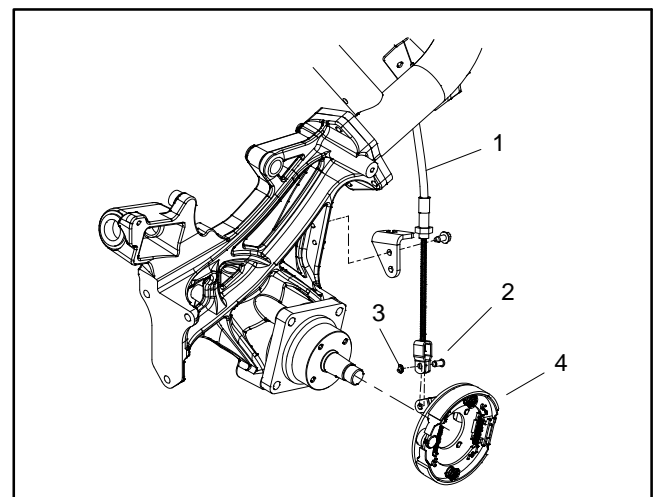

Figure 46
2. Loosen, but do not remove, lug nuts (item 9) and lock nut (item 7). Loosen lock nut at least two (2) turns.
5. Remove e-ring and clevis pin that secure brake cable clevis to brake actuator lever (Fig. 46). Position brake cable clevis away from actuator lever.
1. Position hydraulic wheel motor to the frame with motor ports facing up. Place brake lever tab (item 10) to wheel motor with slot toward rear of machine. Secure motor and brake lever tab to the frame with four (4) cap screws.
5. Position brake assembly to wheel motor and align brake actuator lever with slot in brake lever tab. Secure brake assembly to wheel motor with four (4) cap screws.
8. Secure brake cable clevis to brake actuator lever with clevis pin and e-ring (Fig. 46).
9. Install front wheel to machine and secure with four (4) lug nuts.